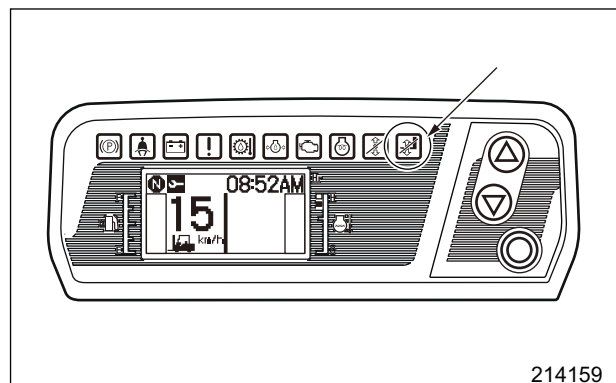

Fig. 1-5 Instrument panel screen
- (7) Make sure that the mast interlock indicator lamp on the instrument panel blinks. (Fig. 1-5)